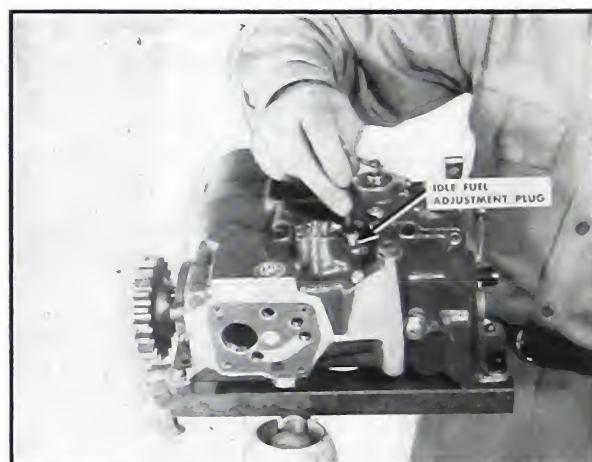

Fig. 5-191. Remove pipe plug
1. Remove the idle-fuel adjusting-screw pipe plug. Fig. 5-191. This must be removed to gain access to the upper housing hold-down screw.